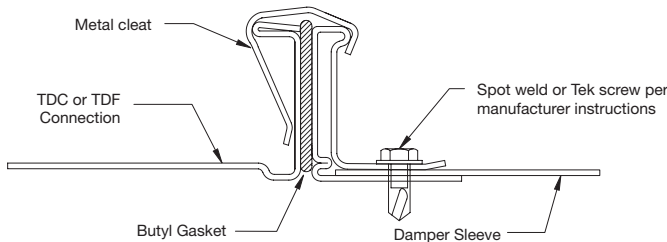
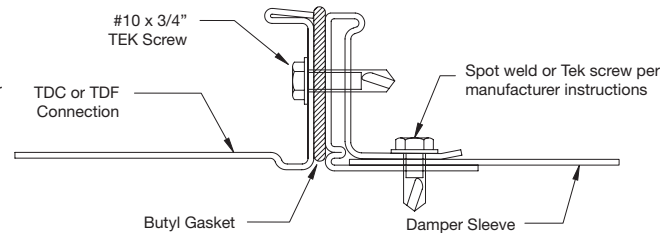

Figure 1
Figure 2
4. Install the metal cleat (see Figure 1) or #10 tek screw (see Figure 2), approximately equally spaced, per the schedule described below: